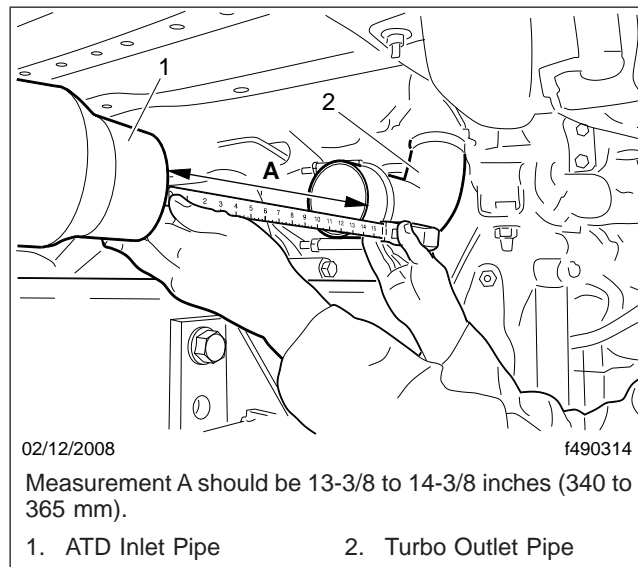

Fig. 3, Measuring Between the Pipes
4. Once the pipes are aligned and concentric, measure the distance between the ATD inlet pipe and turbo outlet pipe. See Fig. 3.